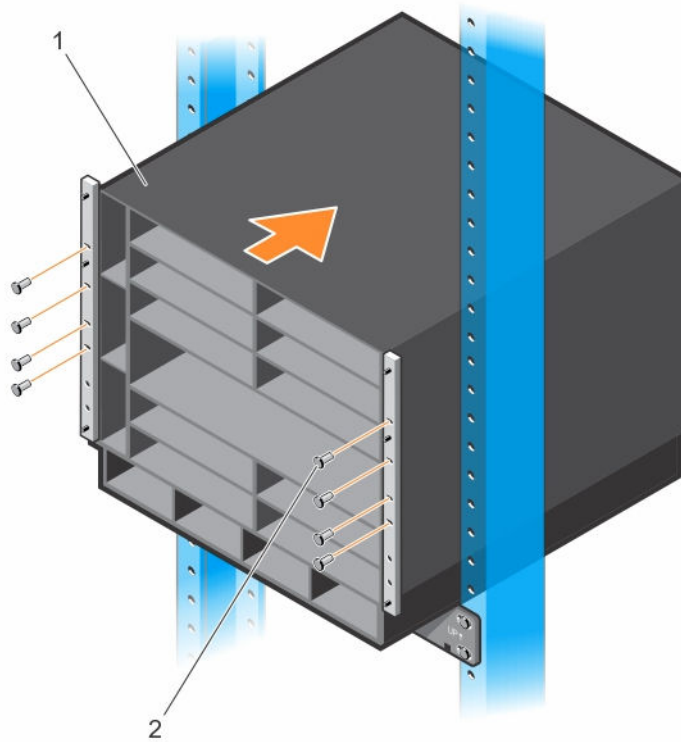

Figure 4. Mounting the Chassis into a 2-Post Rack
5. Use an equipment lift or two people to lift the empty chassis without blanks (item 1 in Figure 4) and align the rack-mount screw holes on each flange of the chassis with the holes in the equipment rack. Rest the chassis on top of the rack bar (or rack tray, if installed). Slide the chassis so that the holes in the side flanges align with the holes in the rack posts. Tighten four rack screws (item 2 in Figure 4) on each chassis flange to attach the chassis to the rack posts. Tighten each group of rack screws by starting with the bottom screw and working up.